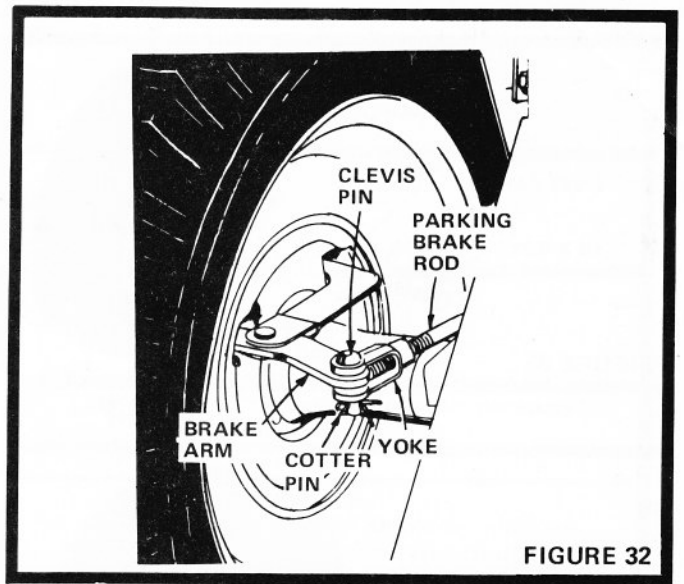

FIGURE 32
- Remove Cotter Pin and Clevis Pin from Yoke (Fig. 32).